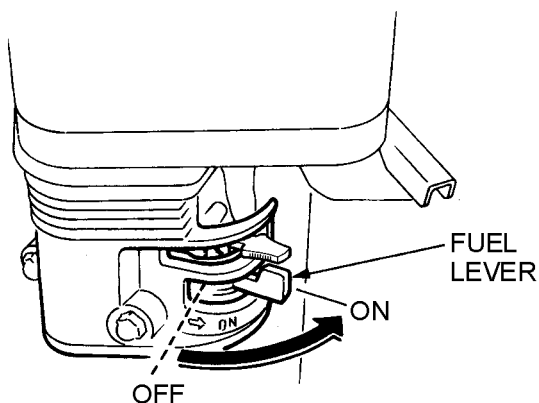

Figure 11. Fuel Valve Lever
1. Place the fuel valve lever (Figure 11) in the **ON** position.